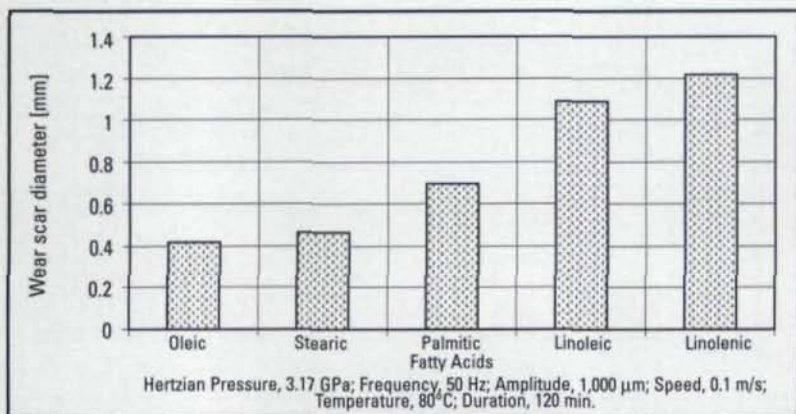

Figure 3—Antiwear properties of fatty acids.
Five different fatty acids contained in the vegetable oils were tested on the SRV test device to demonstrate their antiwear properties (see Fig. 3). The oleic fatty acid proved to have the best antiwear properties at the selected parameters. Antiwear properties and good oxidation stability make the oleic fatty acid the most desired fatty acid in the vegetable lubricant oil formulation.
Vegetable- and synthetic-based oils have excellent viscosity properties. Their viscosity indexes (VI) exceed 195, while the VI for mineral UTTO oil equals 150 (see Table 1). The higher VI allows for the formation of the thicker lubrication film and for better separation of the contact surfaces at working temperatures (Ref. 14–15). The UTTO oils are of the same ISO grade viscosity, but tests—especially for pitting resistance—show a great differentiation in the results. Besides the lubricant viscosity, the lubricant base stock has a great influence on pitting resistance, while the additive type and concentration have only a minor influence. The FZG pitting test conditions correspond to a Hertzian contact point pressure of 1.65 GPa, while contact pressure at the SRV test is 2.0 GPa. The pitting test results closely follow the SRV investigations. Measured friction coefficient (Figure 2), the fatty acid content (Table 2), and antiwear properties of fatty acids (Figure 3) determine the pitting performance. The higher number of cycles until failure is thus a function of the lower sliding friction at the point of contact and, consequently, lower tangential stresses on the surface, which can efficiently prevent fatigue failure associated with surface-initiated cracks (Ref. 16).